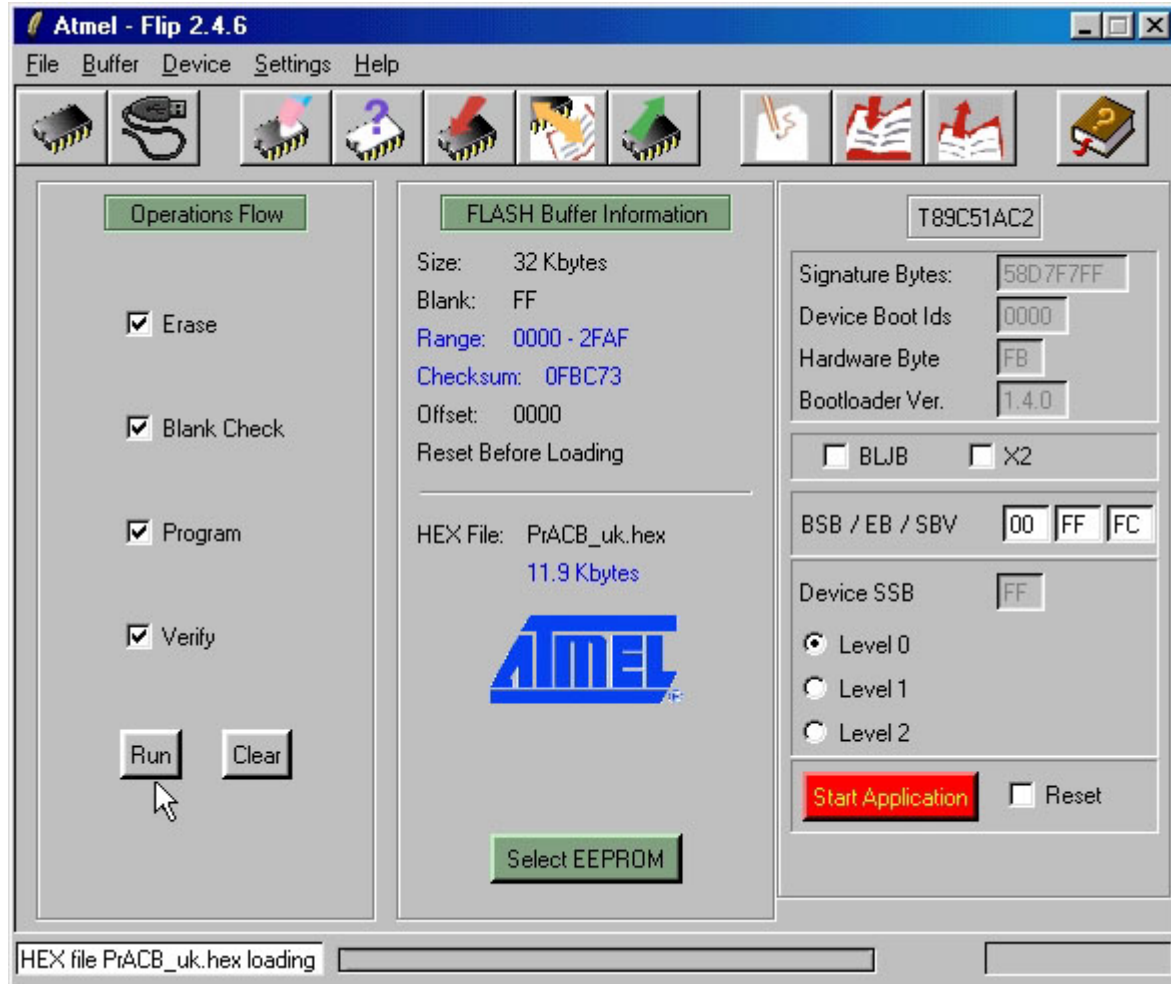

FIGURE 22: FLIP SETTINGS WINDOWS (3 OF 3)
- C11) Select all the check boxes in the frame *Operations Flow* as in figure 22, in order to let **FLIP** execute in sequence the four operations: erase, blank check, program and verify.
- C12) At this point make sure that main windows of **FLIP** looks like figure 22; in details the data in the *Size*:, *X2*, *Device SSB* and *BSB / EB / SBV* boxes must exactly match.